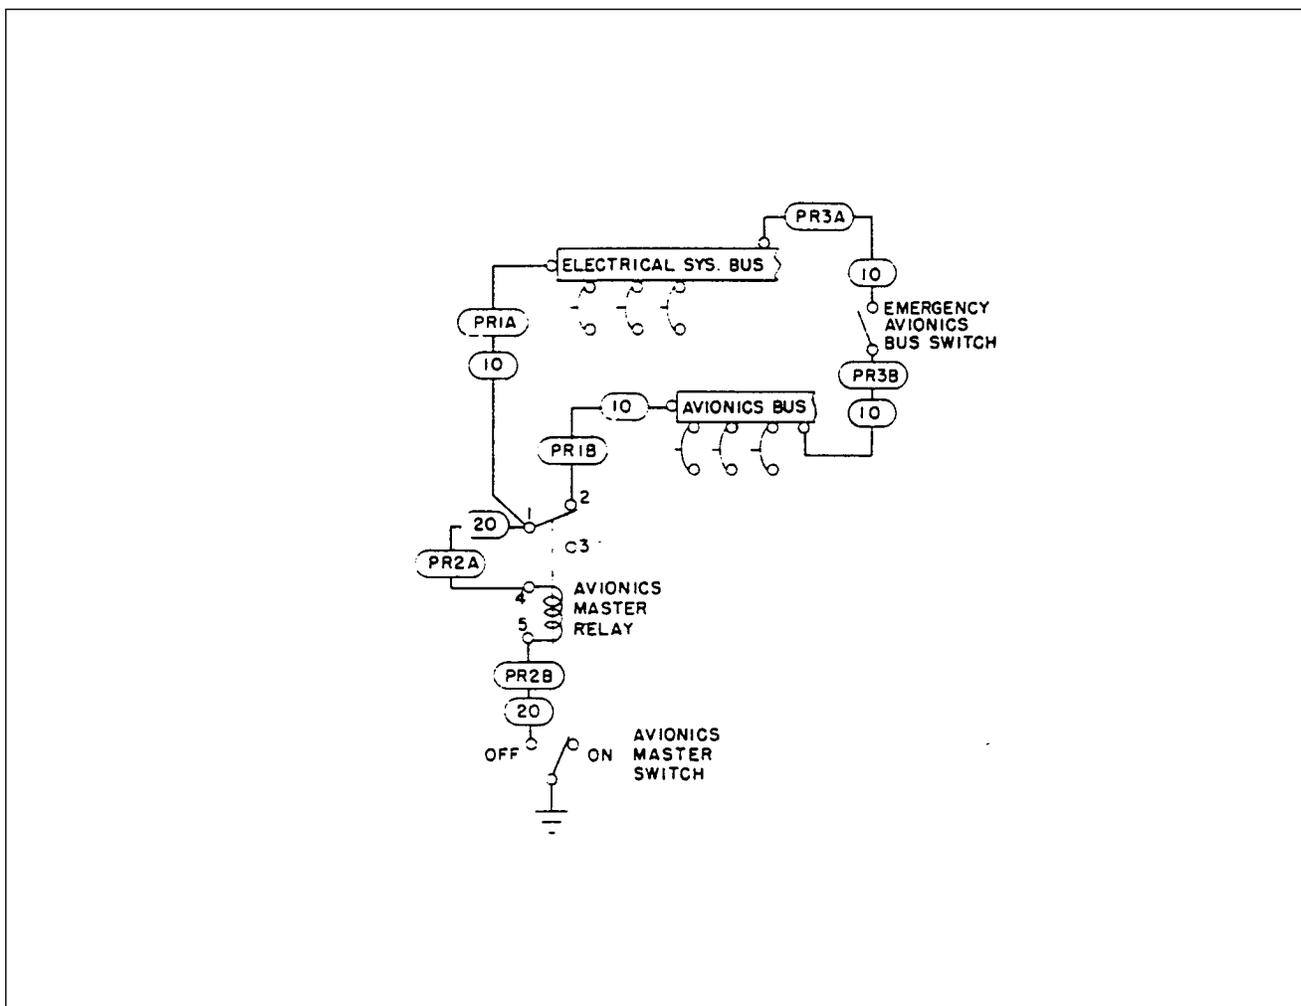

Figure 23-1. Avionics Master and Emergency Switch Circuit
**AVIONICS MASTER AND EMERGENCY SWITCH CIRCUIT (figure 23-1)**